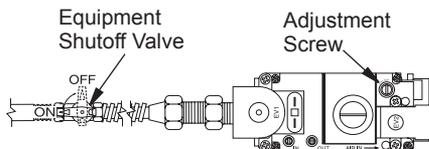

Figure 37 - Turning Equipment Shutoff Valve to the OFF Position
6. Turn equipment shutoff valve clockwise  to the OFF position (see Figure 37). Do not force.
7. Wait five (5) minutes to clear out any gas. Then smell for gas, including near the floor. If you smell gas, STOP! Follow "B" in the safety information, above. If you don't smell gas, go to the next step.
- Turn adjustment screw marked PILOT clockwise to decrease or counterclockwise to increase the flame to proper size (see Figure 37, page 19). Do not remove adjustment screw.